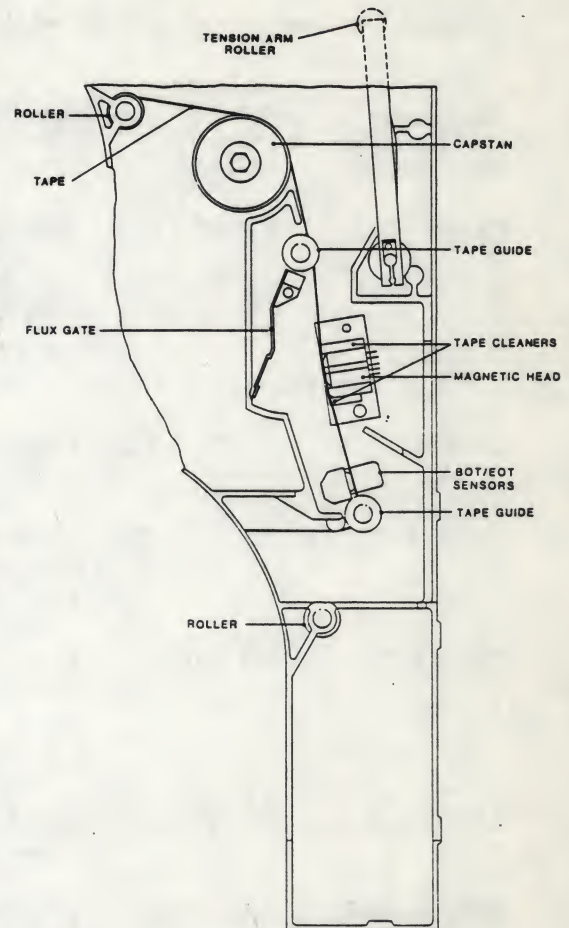

Figure 2-12. Tape Threading
2. Manually thread tape backwards through the tape path from the Take-up Reel to the Supply Reel. Refer to Figure 2-12.